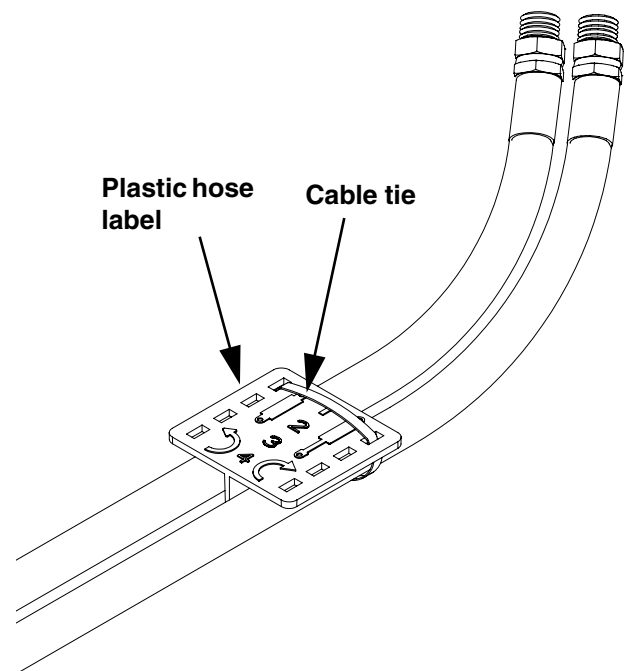

Figure 5
1. Install elbow fittings (1) in cylinder ports.
2. At rod end of each cylinder, install an adaptor (2) into elbow fitting. Install a needle valve (3) in adaptor.
4. Using orange cable ties, secure a plastic hose label, see Figure 5, to each pair of hydraulic hoses near tractor outlets.
6. Using orange cable tie, secure plastic hose label, see Figure 5, to hydraulic hoses near tractor outlets.